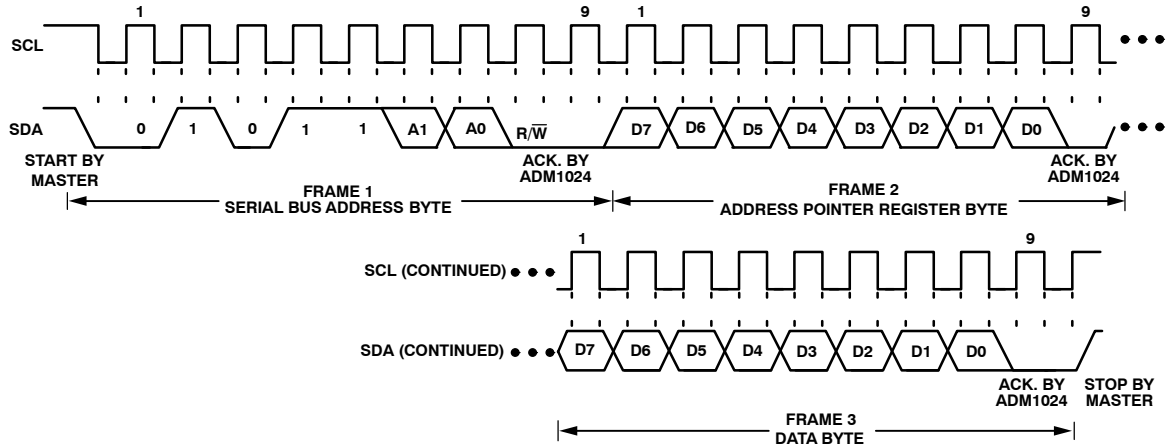
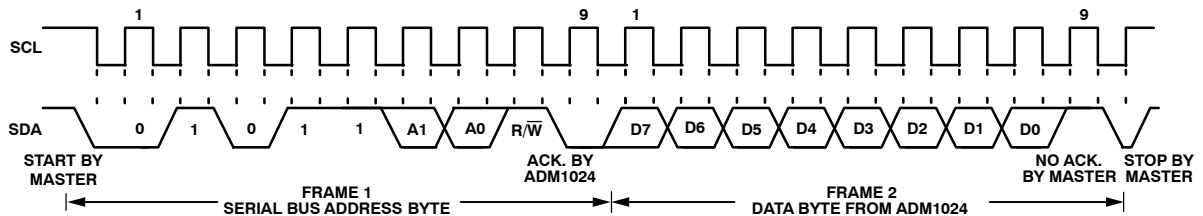

Figure 10. Writing a Register Address to the Address Pointer Register, then Writing Data to the Selected Register
Figure 12. Reading Data from a Previously Selected Register
To write data to one of the device data registers or read data from it, the Address Pointer Register must be set so that the correct data register is addressed, then data can be written into that register or read from it. The first byte of a write operation always contains an address that is stored in the Address Pointer Register. If data is to be written to the device, the write operation contains a second data byte that is written to the register selected by the Address Pointer Register. This is illustrated in Figure 10 The device address is sent over the bus followed by R/W set to 0. This is followed by two data bytes. The first data byte is the address of the internal data register to be written to, which is stored in the Address Pointer Register. The second data byte is the data to be written to the internal data register.
A read operation is then performed consisting of the serial bus address, R/W bit set to 1, followed by the data byte read from the data register. This is shown in Figure 12.
2. In Figure 10 to Figure 12, the serial bus address is shown as the default value 01011(A1)(A0), where A1 and A0 are set by the three-state ADD pin.